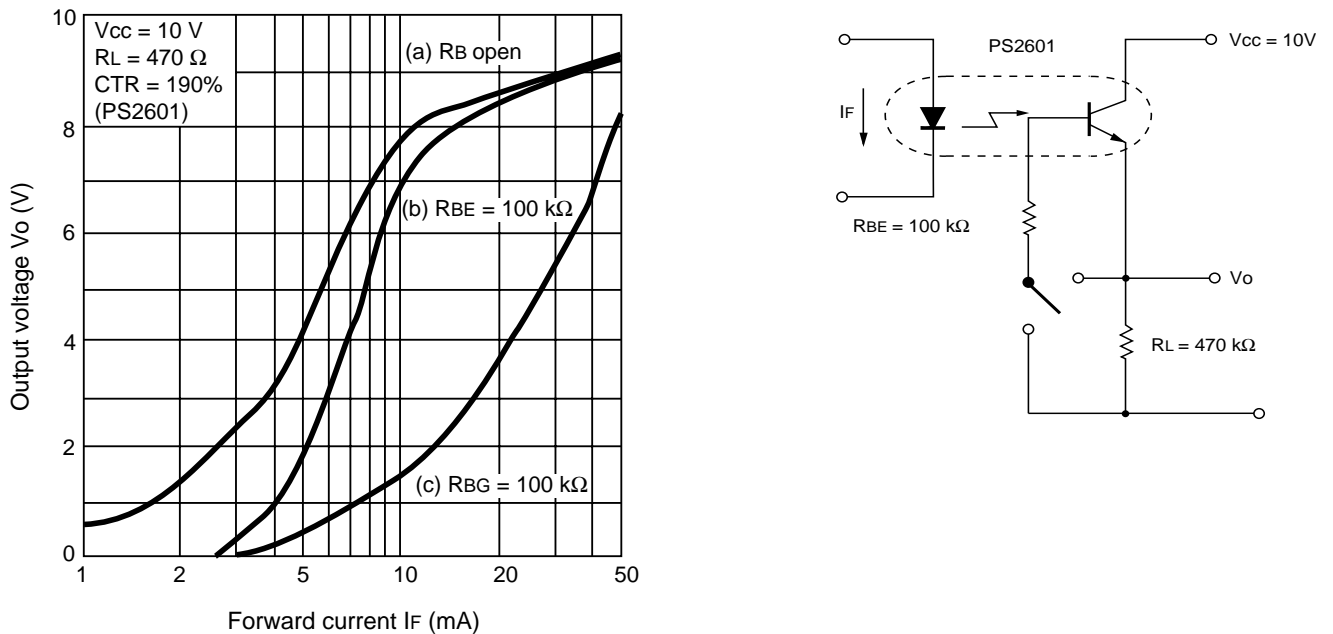

Figure 3-5. V_o vs. I_F Characteristics
When resistor R_{BE} is serially connected to resistor R_L (see Fig. 3-4 (c)), the reduction of a CTR becomes greater even if $hFE2$ is approximately equal to $hFE0$ in expression (8) as the expression includes R_L as a parameter. Fig. 3-5 shows typical V_o vs. I_F characteristics of the above circuits (a), (b), and (c).